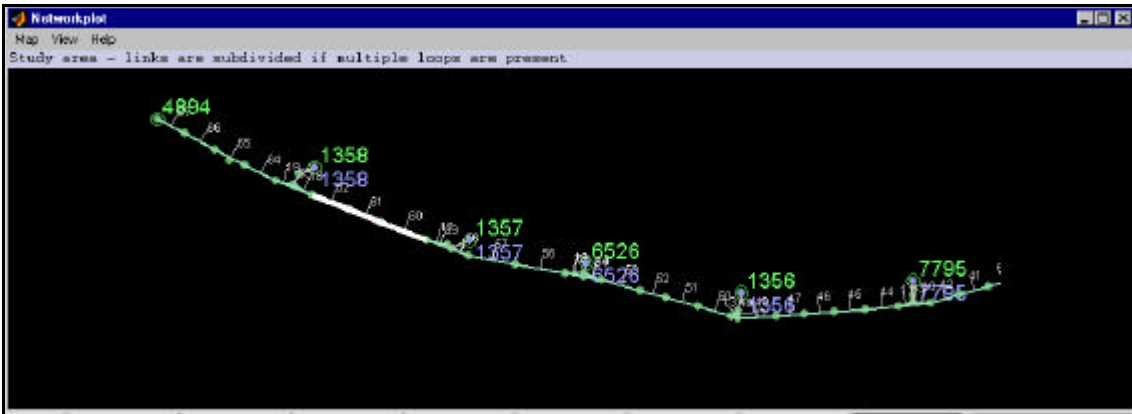

Figure 5: Network data of the study area by selecting the “Show network” from the “View data” menu.
- Click on links of the network to select them (Figure 5).